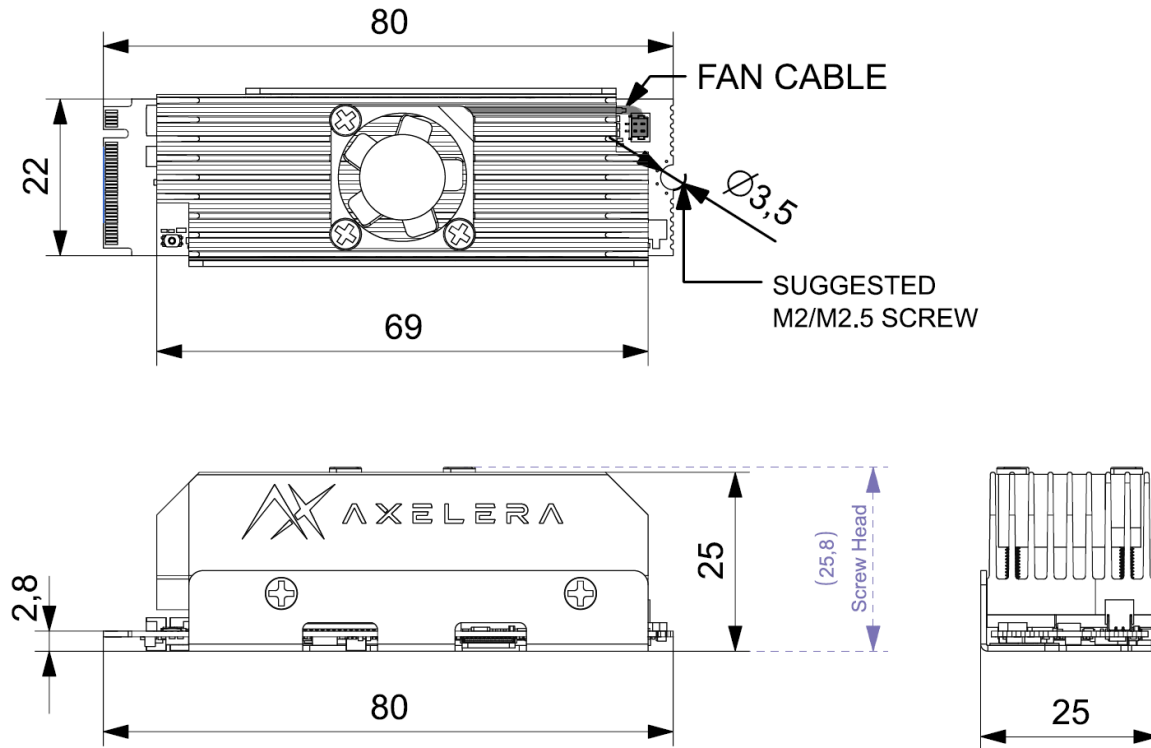

Figure 3: The fan-cooled heatsink for the Axelera Embedded 110m card
- Figure 3 shows the fan-cooled heatsink for the Axelera Embedded 110m card.